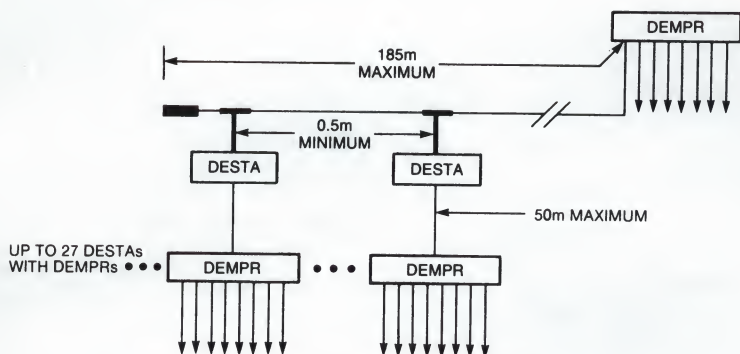
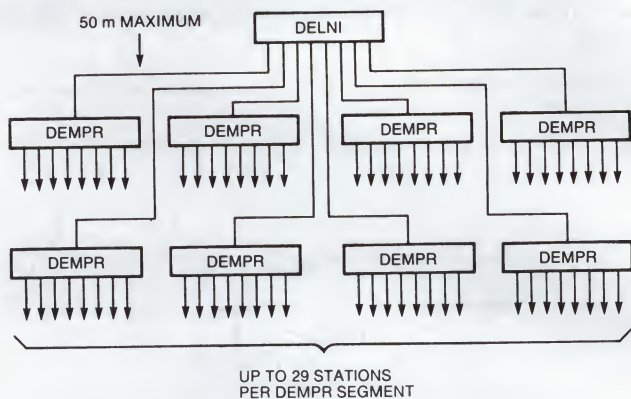

Figure A-5 ▪ Stand-alone Cascading DEMPRs
Figure A-6 ■ Stand-alone DELNI with DEMPRs
- There can be up to two DEMPRs between stations. Therefore, you can cascade DEMPRs on one of the ThinWire cables attached to a DEMPR. (See Figure A-5.) You must use a DELNI in order to cascade more DEMPRs. (See Figure A-6.)
- Using a loopback connector on the DELNI, you can connect up to eight DEMPRs using 5 to 50 meters (16.5 to 165 feet) of transceiver cable for each DEMPR (Figure A-6).